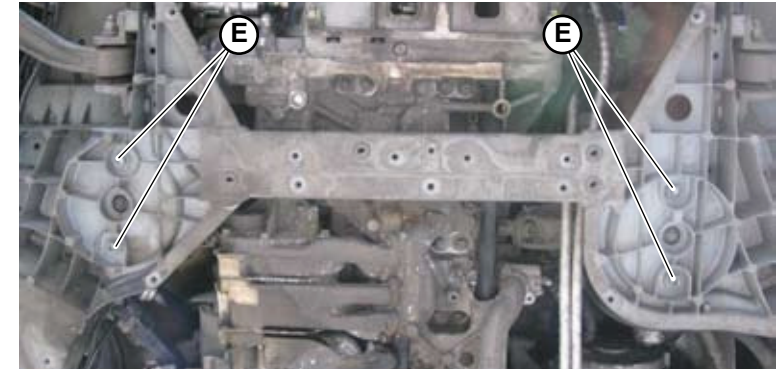

Fig.3
5. Tighten four screws (**E-Fig.3**) to secure the engine to the chassis.